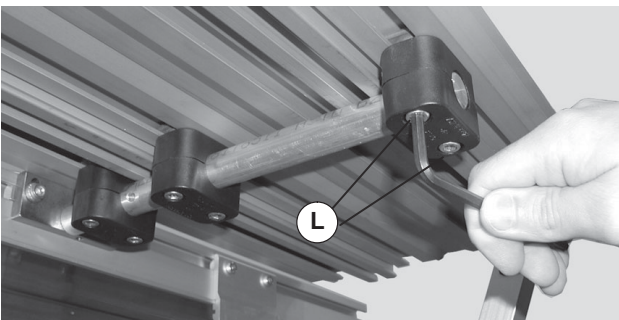

Figure 15
- Tighten second set of clamp screws (Figure 15, item L) to 30 in-lb (2.5 N-m).